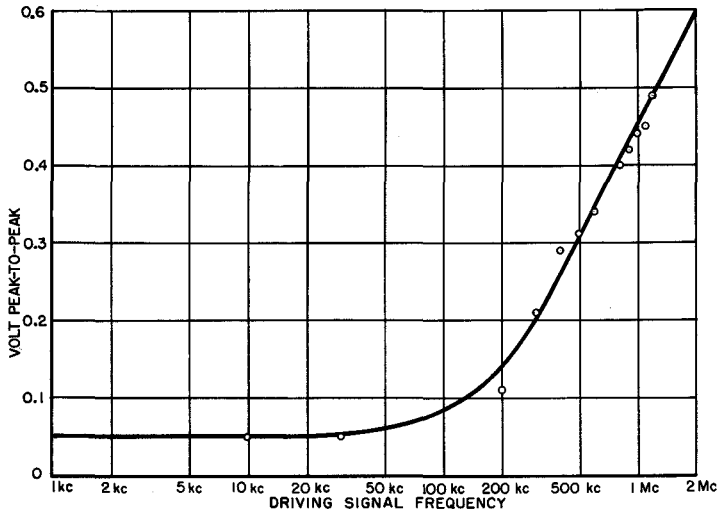

Figure 2-4. Typical sensitivity-vs-frequency characteristics.
- f. Reset the audio-frequency generator to 1 kc and reduce its amplitude. When the Type 1217-C fails to trigger, adjust the ΔF control until triggering is re-established. When no further adjustment of the ΔF control will re-establish triggering, the triggering threshold has been reached (this should be at about 0.3 volt p-to-p to 1 kc). A plot of typical sensitivity is given in Figure 2-4.